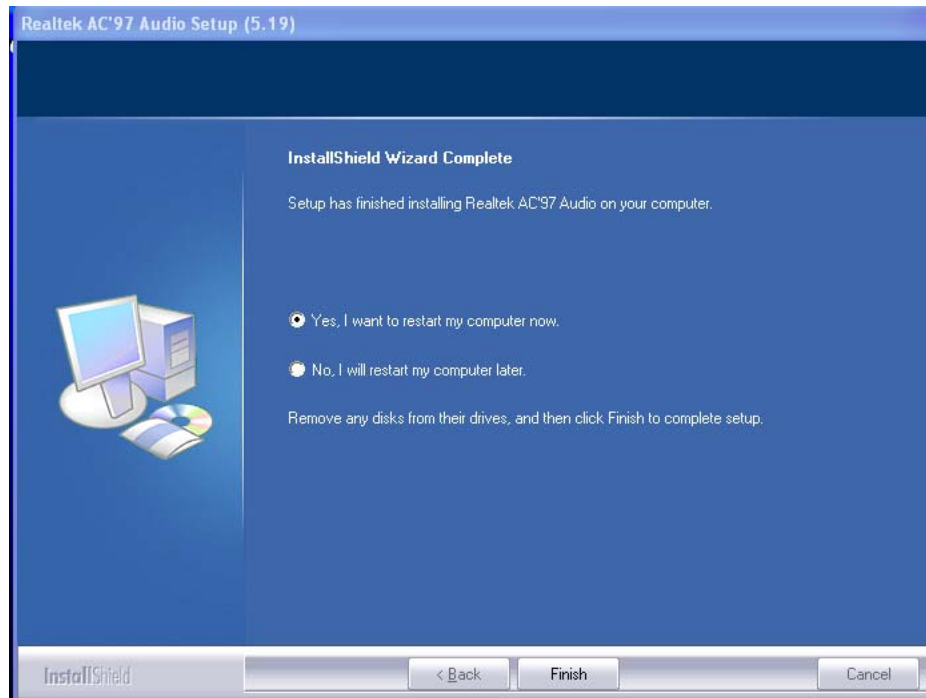

Figure 7-26: AC'97 Driver Installation Complete
Step 11: When the driver is installed, the driver installation finish screen in Figure 7-26 appears.